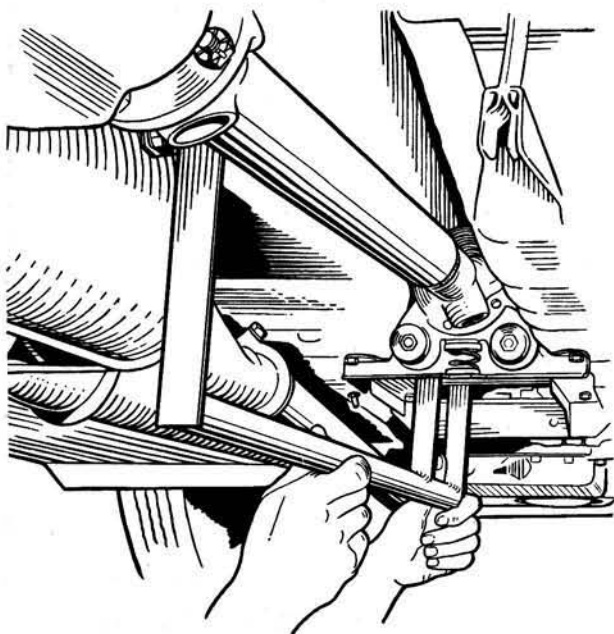

Fig.7.10. Checking horizontal alignment of the shaft
- 7 Now check that the shafts are in a straight line fore and aft. Place the legs of the jig on the side of the shaft (Fig.7.10), each leg should bear evenly but do make sure, if you use the home made jig described above, that the nails are indeed correctly aligned. As an alternative, drop three plumb bobs, two from the front and one from the rear shaft and sight along the cords.